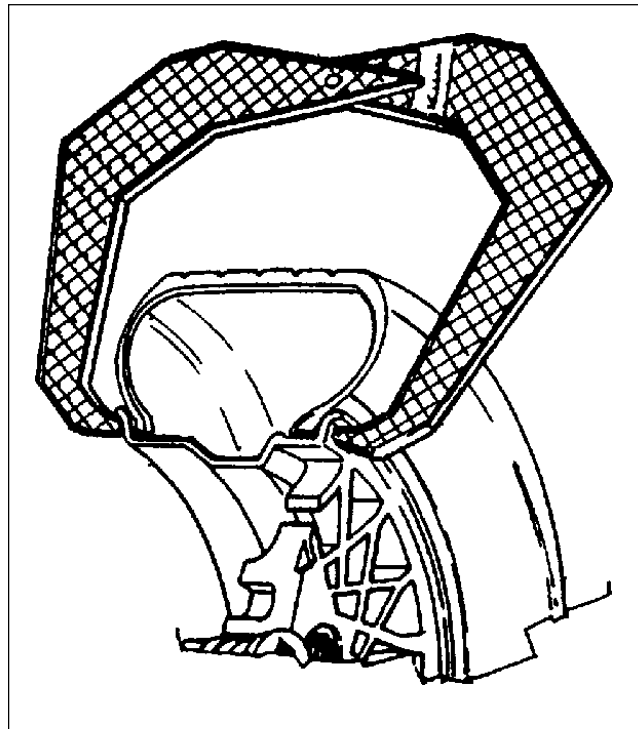

Fig.45
**D.** Measure the rim width with the wheel caliper (Fig.45).